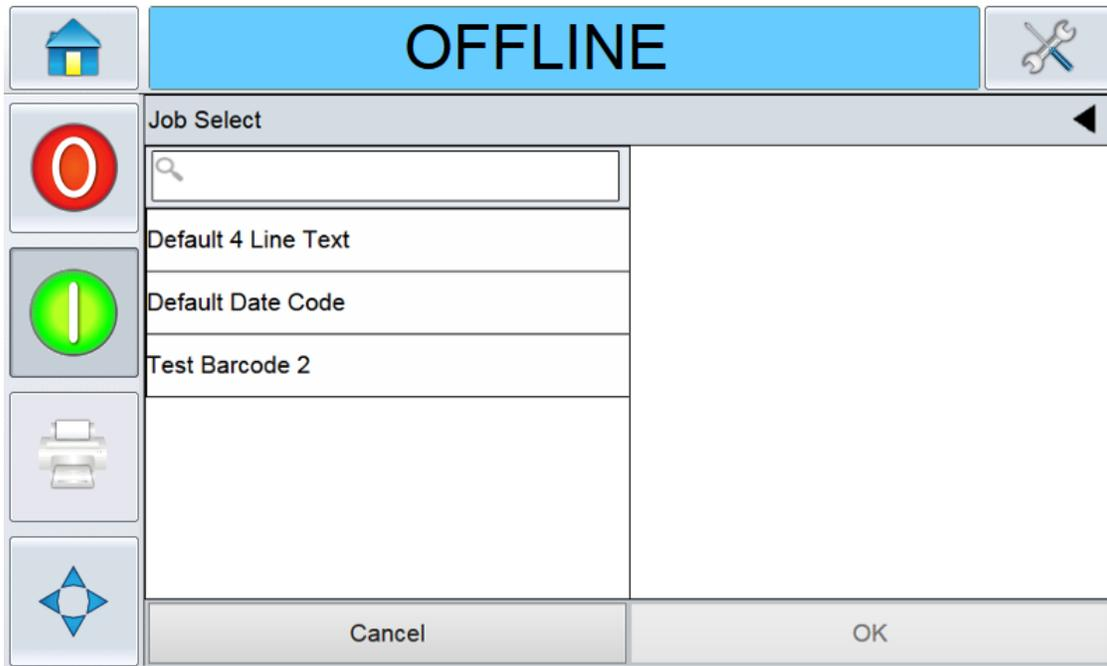

Figure 6-3: Job List
1. Touch **JOB** on the Home screen. A list of available jobs is displayed (Figure 6-3).